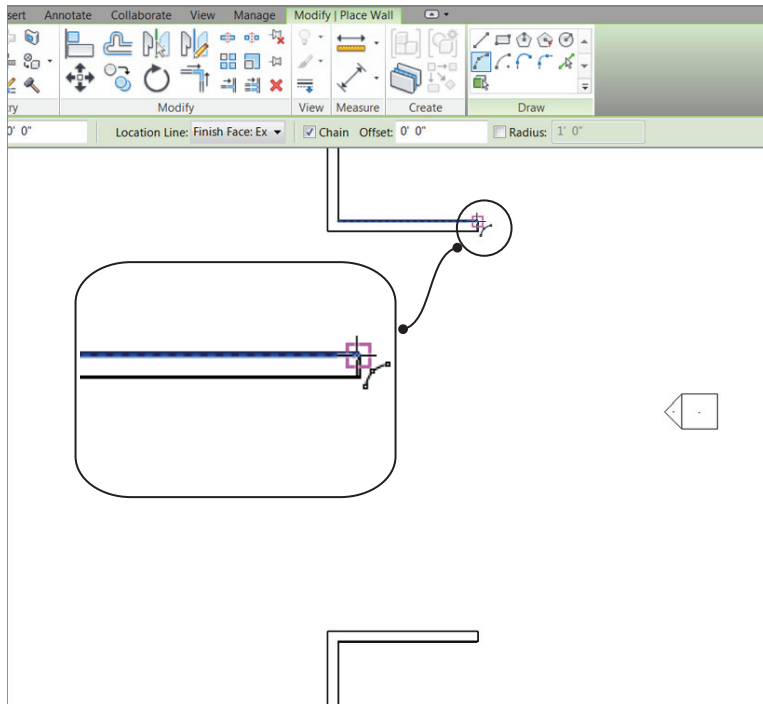

FIGURE 1.31: Select the top corner of the wall to start your new radial wall.
8. With the wheel button on your mouse, zoom into the upper corner of the building and select the top endpoint of the wall, as shown in Figure 1.31. The point you're picking is the corner of the heavy lines. The topmost, thinner line represents a concrete belt course below. If you're having trouble picking the correct point, don't be afraid to zoom in to the area by scrolling the mouse wheel.